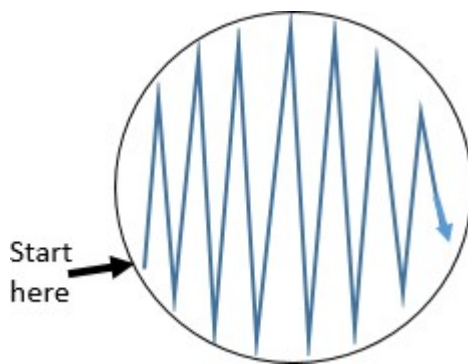

Figure 2: Zig-zag streaking method
- Streak agar surface in a zig-zag pattern (see *Figure 2*).